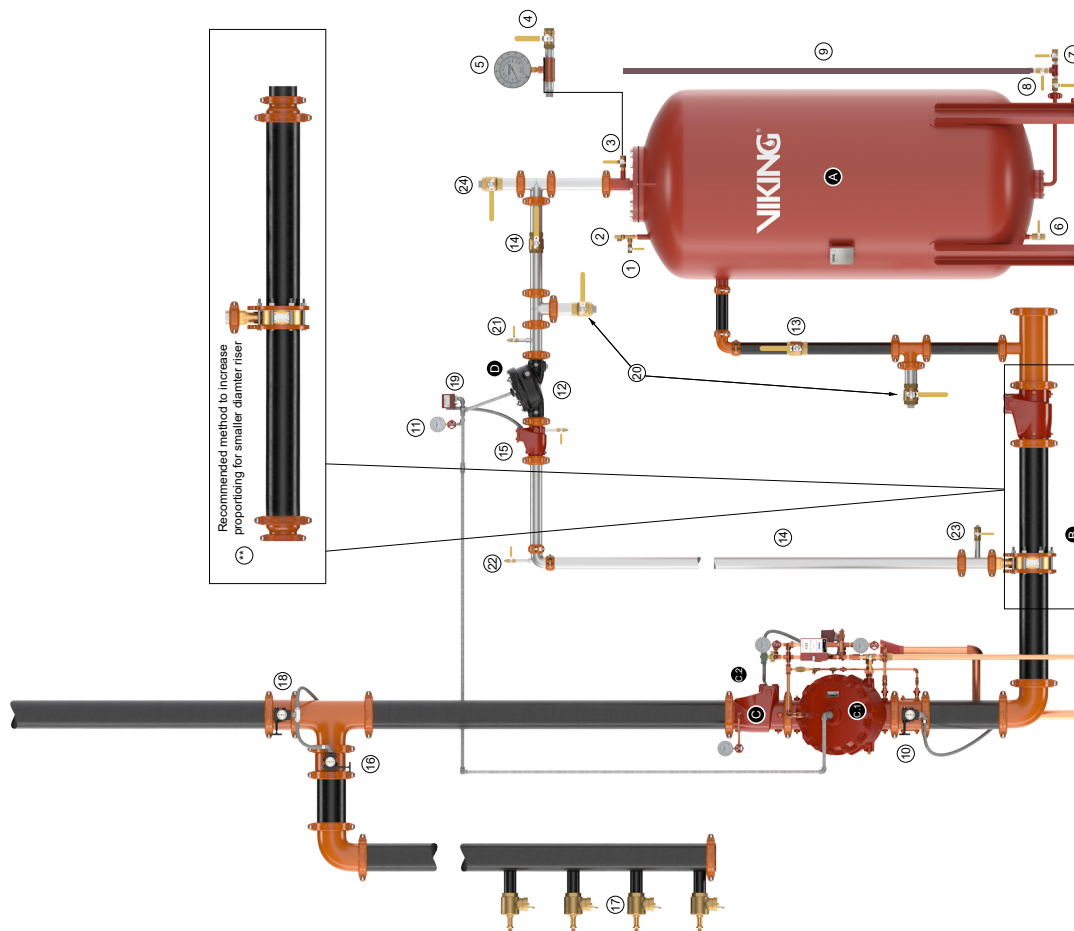

Figure 1
- C. The CCV (D) and swing check valve (15) must be connected adjacent to the wide range proportioner using the shortest pipe nipples possible.
- D. Figure 1 contains general schematics of the required piping arrangement. Refer to the appropriate technical data page for specific information regarding the valve, tank, and related trim and devices.
- G. The foam deluge CCV (D) does not require any trim, except for a ½" priming line, ½" auxiliary drain valve, and gauge with 3-way valve. Plug all remaining valve trim outlets.